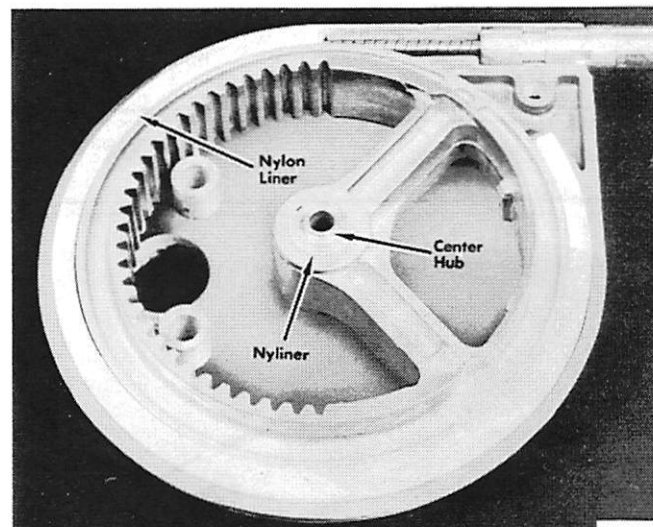

Figure 8. Ring Gear Installed
- counterclockwise direction and install retaining tool over ring gear and cable as shown in Figure 8. Retaining tool is supplied with kit.
5. Make certain that nyliner is in center hole of ring gear and install ring gear over hub in housing. Press down evenly on ring gear and nylon liner to install in housing. (Figure 8 Remove retainer tool.